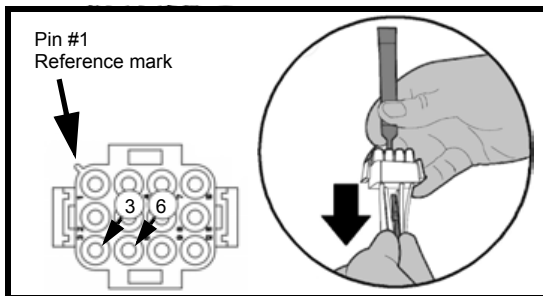

Fig. 43
- 3) With an extractor tool (#005.00374), remove the two wires of the horizontal motor from the main connector (position numbers 3 and 6). (see Fig. 43)